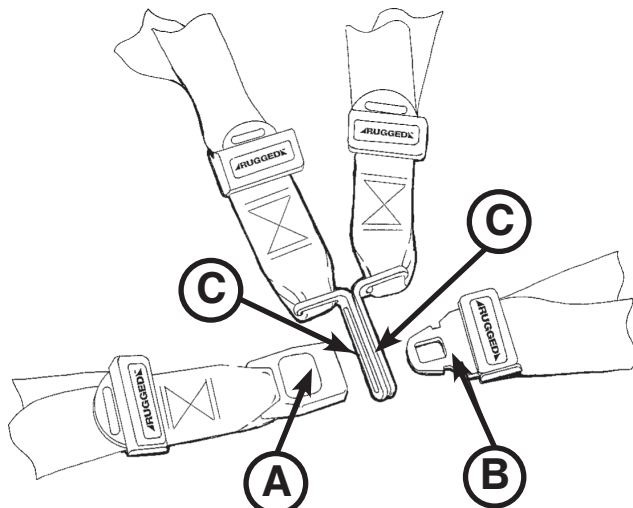

Figure 43
- **To open the restraint**, press the red button (A) on the front of the buckle “receiver”. This releases the buckle latch plate (B) which can then be pulled out of the receiver (Figure 43).
- **To close the restraint**, push the latch plate into the receiver until a “click” is heard. When fastening the chest restraint ensure that the latch plate passes through both links (C) on the shoulder strap (Figure 43).